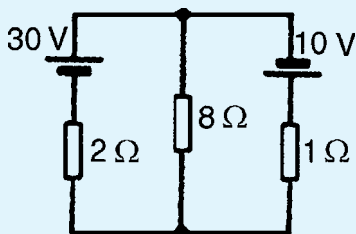

Figure 13.26
- 2. Use the superposition theorem to find the current in the 8 Ω resistor of Fig. 13.26 [0.385 A]